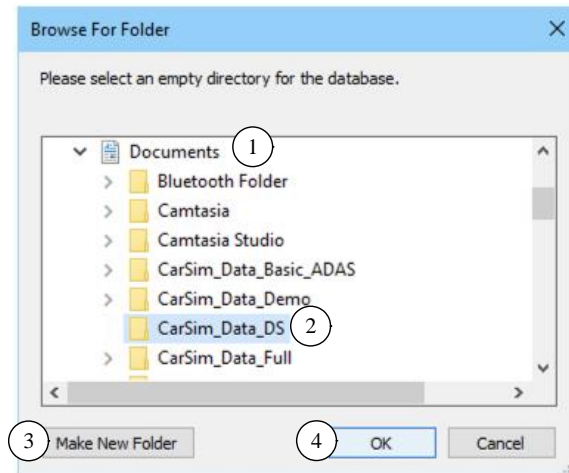

Figure 4. Prompt from CarSim to identify an empty folder for a new database.
2. Check the CPAR options for the **DS_Desktop.cpar** (no Simulink) and/or **DS_Simulink.cpar** (2). If you want the database to include more examples, check any of the groups at the top (e.g., **Basic Vehicle Dynamics** (1)). Individual CPAR archives may also be selected to add specific sets of examples to be included in the new database.
3. Click the button **Build Database from Selected Items** (4).
4. CarSim or TruckSim will prompt you for the name of a new empty folder to use for the new database (Figure 4).
5. Navigate to your preferred location for a new database folder, e.g., Documents (1).
6. Click the button **Make New Folder** (3). Windows will create a new folder with the name New Folder (not shown). It will initially be highlighted, serving as a prompt to provide a more descriptive name.
7. Specify a name for the new CarSim or TruckSim Windows DS database, e.g., CarSim_Data_DS (2).
8. After specifying the new database folder name, make sure the newly named folder is selected (Figure 4), then click the button **OK** (4).